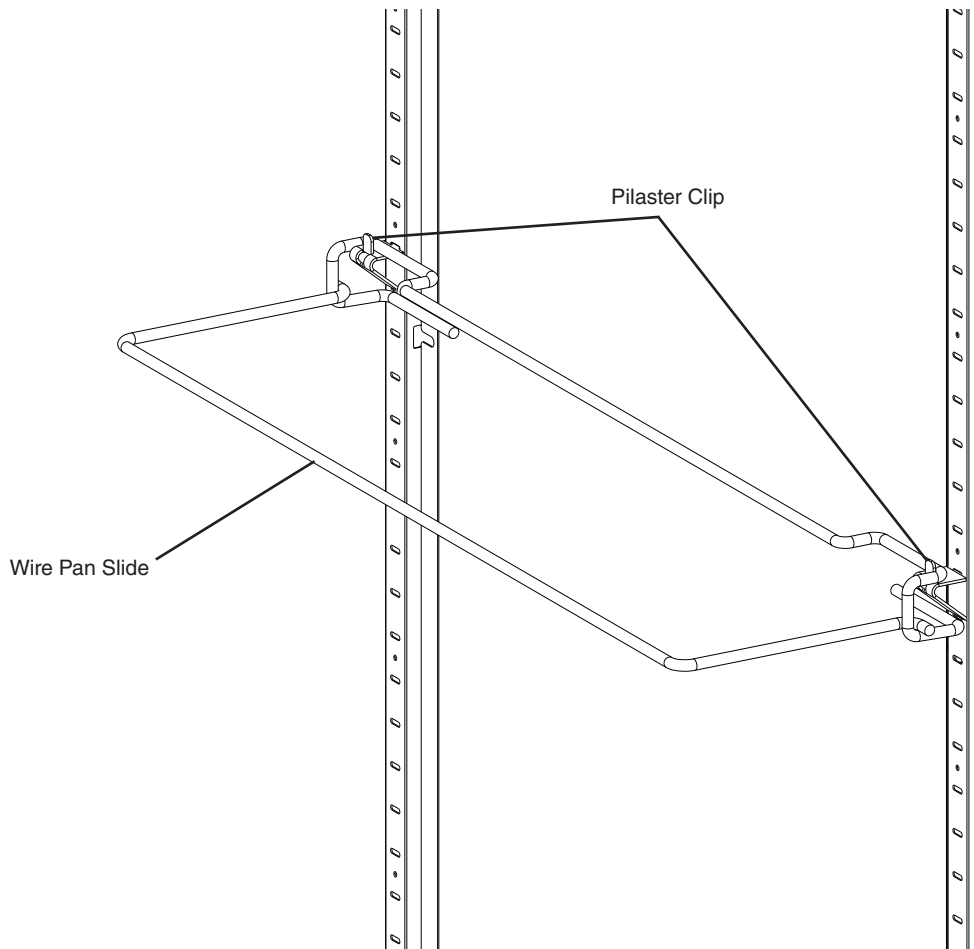

Fig. 1
- 4) Place the wire pan slides in position on the pilaster clips. See Fig. 1.